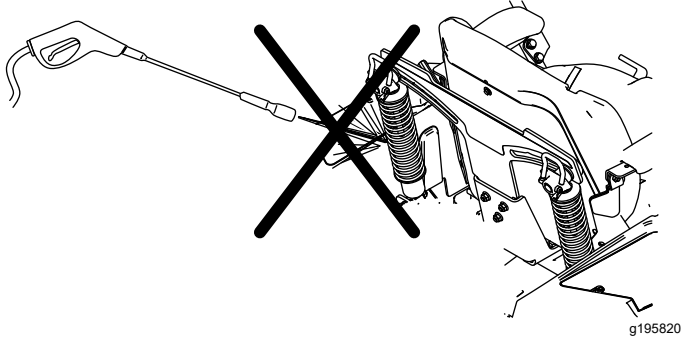

Figure 70
**Note:** Do not clean the shock assemblies with pressurized water (Figure 70).